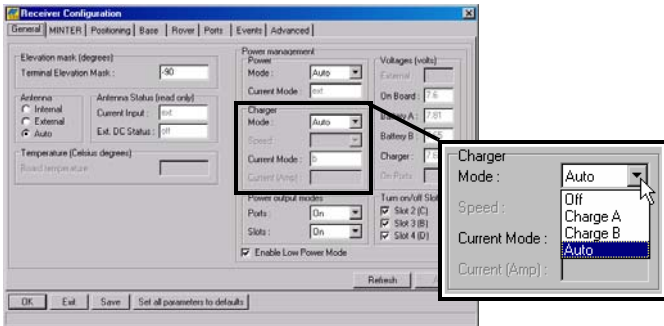

Figure 3-3. Select Charger Mode
4. Select the **Charger Mode** drop-down list to set the desired charger mode (Figure 3-3 on page 3-5). *Current Mode* displays the charging battery: a, b, or none (off).